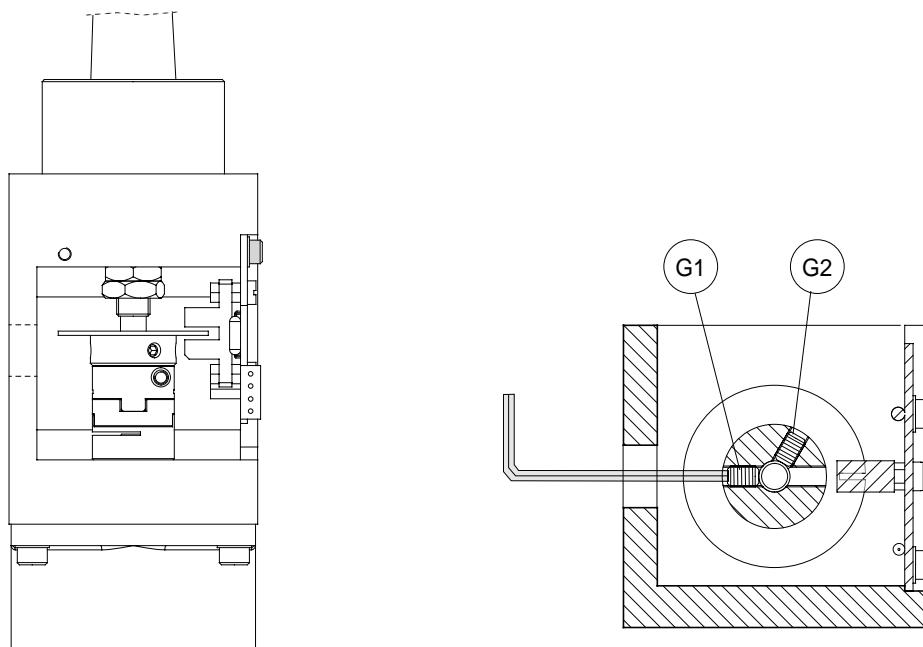

Fig. 32
- 3) loosen the (G1) and (G2) grub screws that secure the X axis photocell disk (fig. 32).
- manually turn the X axis disk (fig. 32, pag.39) up until the display's description changes from OFF to ON.
- use the provided allen key to tighten the (G1) grub screw (fig. 32, pag.39).